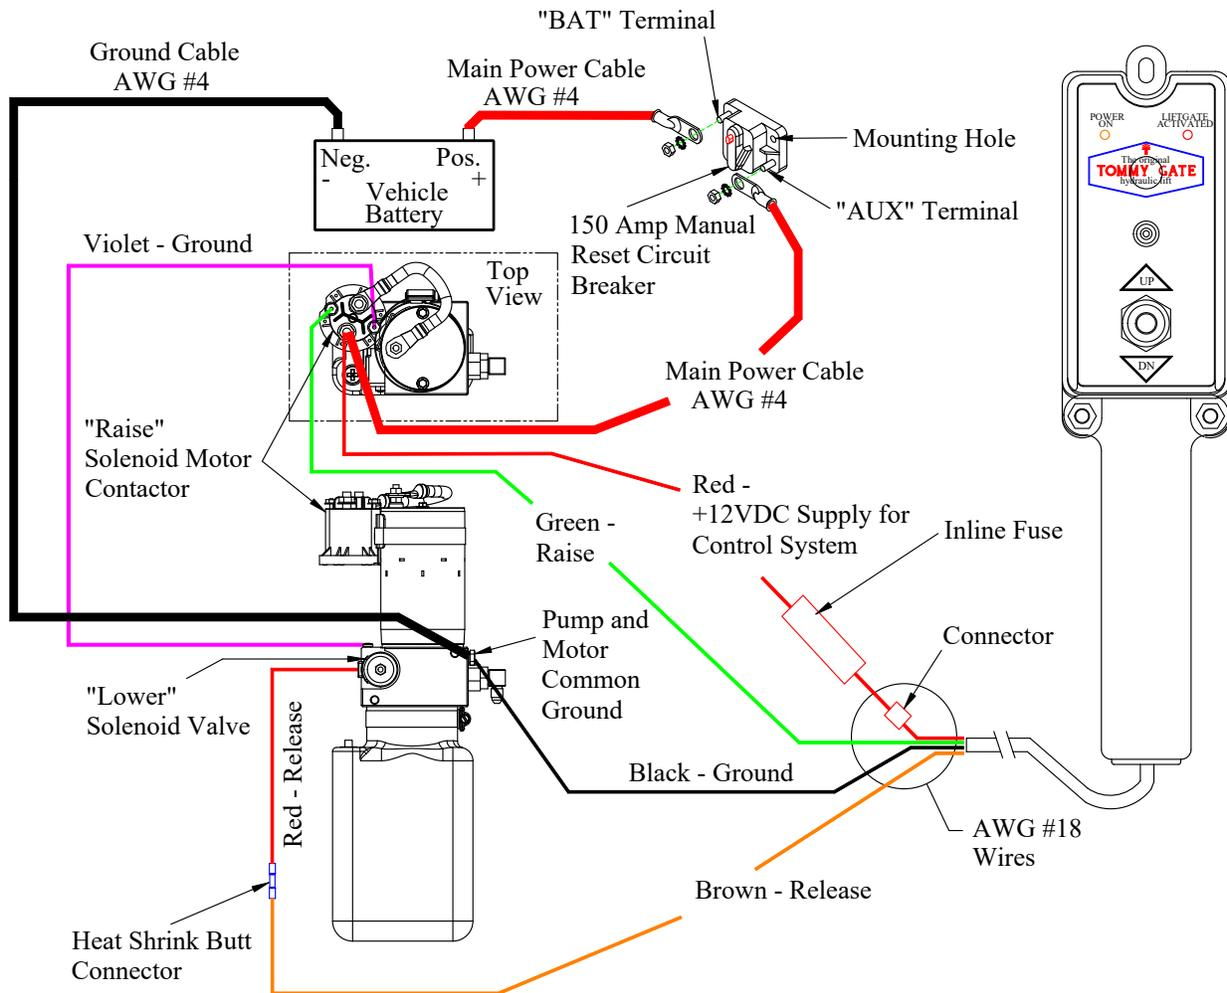

Figure 5: Series 650 wiring diagram.
5. **Install** the inline fuse holder if not already present (Figures 5 and 6).
7. **Connect** the wires to the power unit as shown in the Series 650 wiring diagrams (Figures 5 and 6).